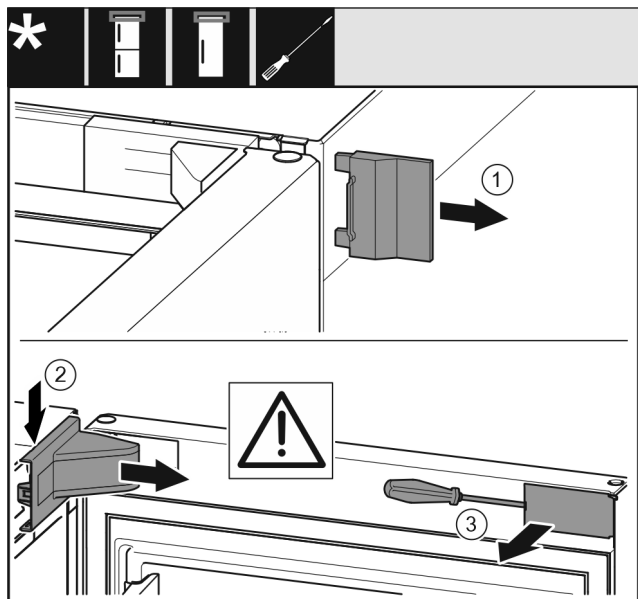

Fig. 12 \*
- Remove the outer cover *Fig. 12 (1)\**
- Disengage and remove the swap bearing block cover *Fig. 12 (2)\**
- Use a slotted screwdriver to unlatch the trim *Fig. 12 (3)* and swing it to the side.\*